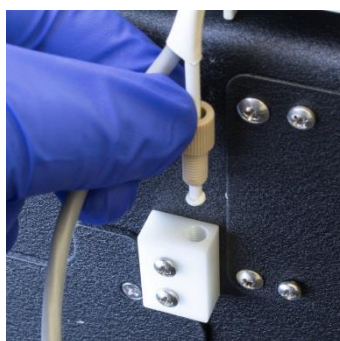

Fig. 6: Attaching the cable to the mounting block
2. Attach the cable to the mounting block to the fraction collector rear panel with the knurled finger-tight nut (→Fig. 6).